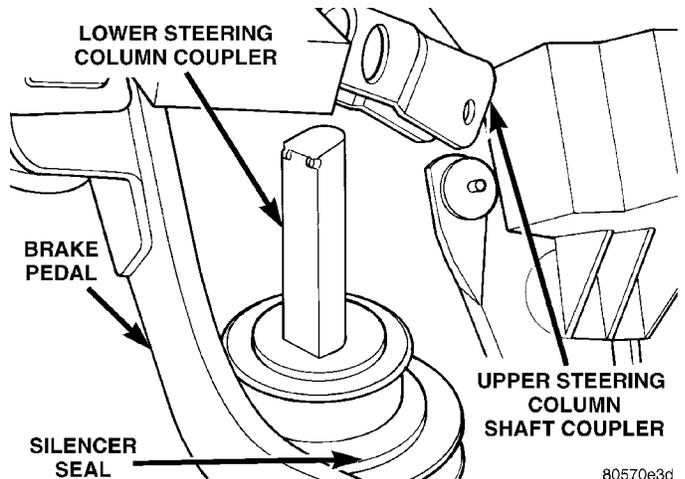

Fig. 4 Steering Column Coupling Seal
- (3) Remove the silencer seal (Fig. 4) enclosing the steering column coupling.
(5) If steering coupling does not require replacement, install steering column coupling silencer seal (Fig. 4) back on vehicle.